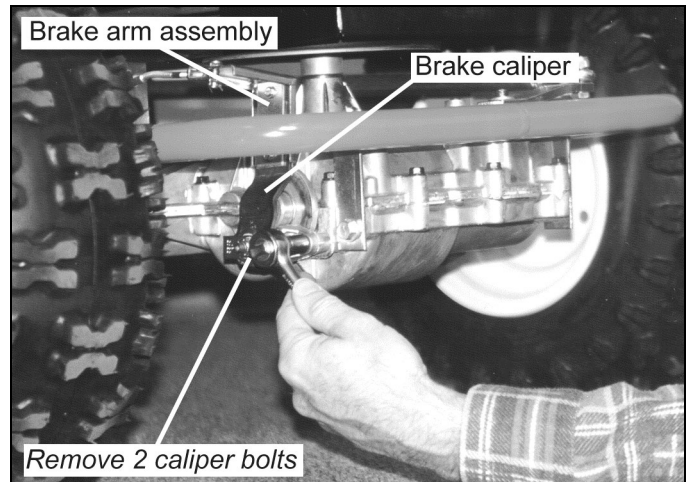

Figure 20
2. Locate the brake caliper at the right front of the machine (*Figure 20*). Remove the two caliper bolts holding the brake caliper with a 1/2" wrench, then carefully remove the caliper.